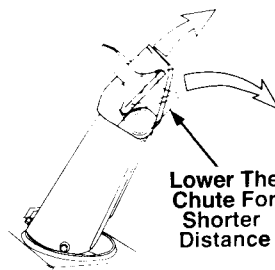

FIGURE 6
2. Adjust the deflector on top of the discharge chute up or down to control the distance that the snow will be thrown. See figure 6.